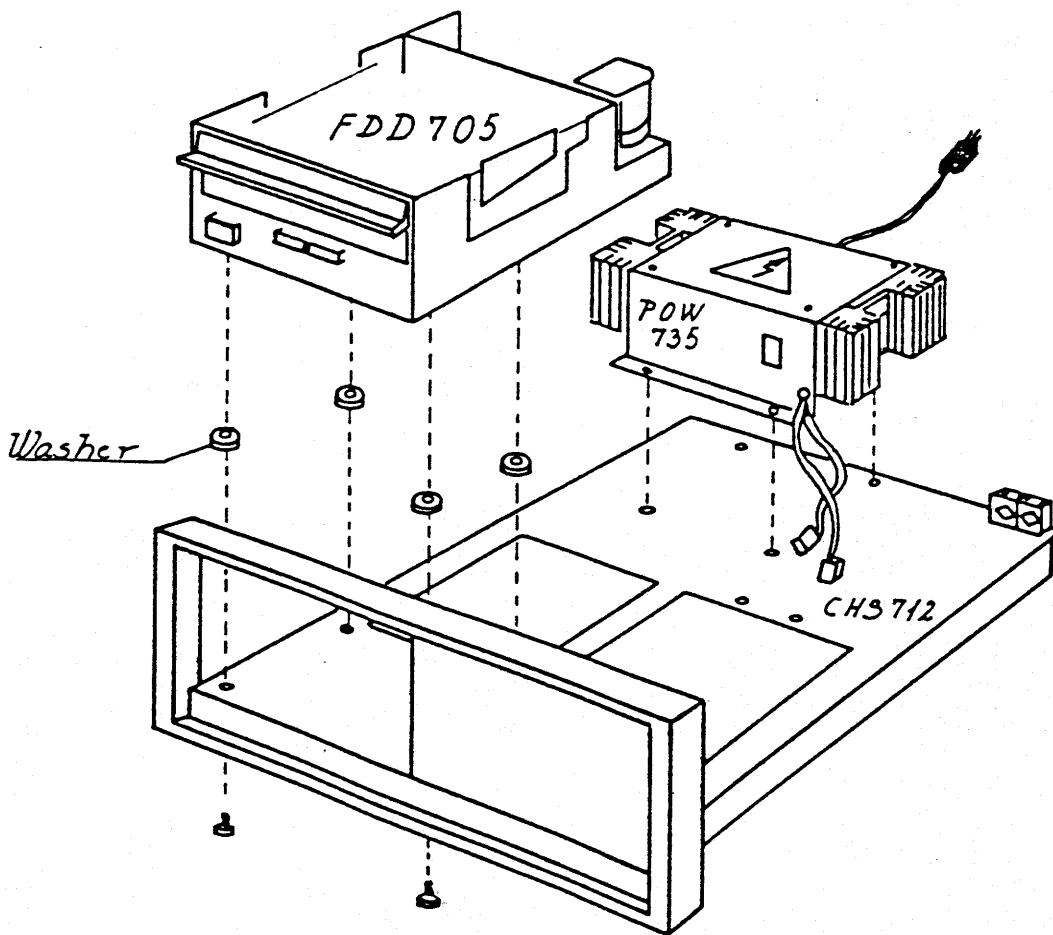

Fig. 4.5 Installation of FDD705 and POW735
- d. Fasten the drive to the chassis using the four screws. (fig. 4.5)